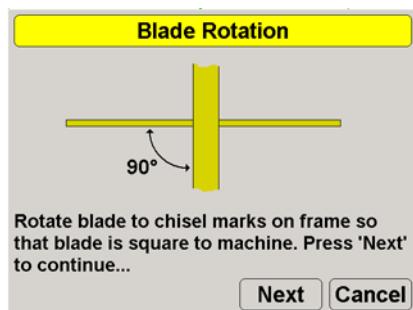

Figure 4-3. Calibrate Sensors – Blade Rotation Dialog Box
1. At the control box, tap **Topcon Logo ▶ Control ▶ Calibrate sensors** (Figure 4-3).